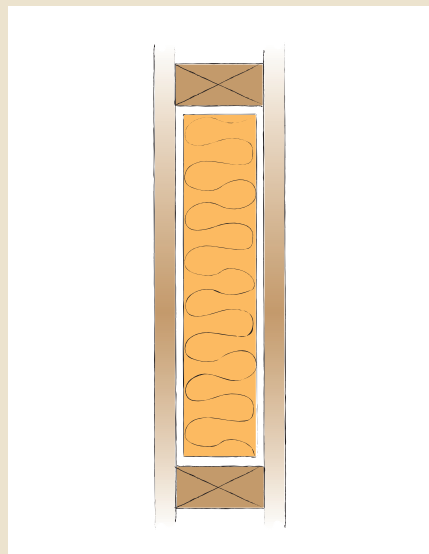

Figure 1: Gaps between the faces of the insulation and the inside faces of the cladding and lining materials will substantially reduce thermal resistance.
**N** ZS 4246:2006 *Energy efficiency – Installing insulation in residential buildings* requires that insulation is fitted without gaps, tucks and folds. Research has shown that gaps as small as a few millimetres around the edges of wall insulation can sometimes halve the overall thermal resistance. This is the case where there are also gaps between the faces of the insulation and the inside faces of the cladding and lining materials (see Figure 1).